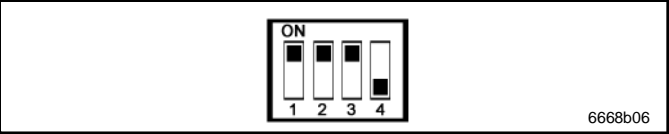

Fig. 8 DIP switch – configuration mode
- Set the DIP switches (see view Fig. 2, page 6) as shown in Fig. 8: